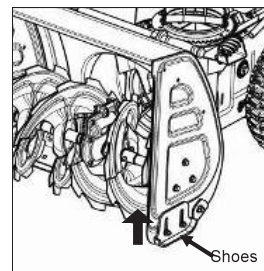

Fig. 24A
- On flat ground, e.g. asphalt, the shoes should be adjusted about 5mm (the auger to the ground). (Fig. 24A)